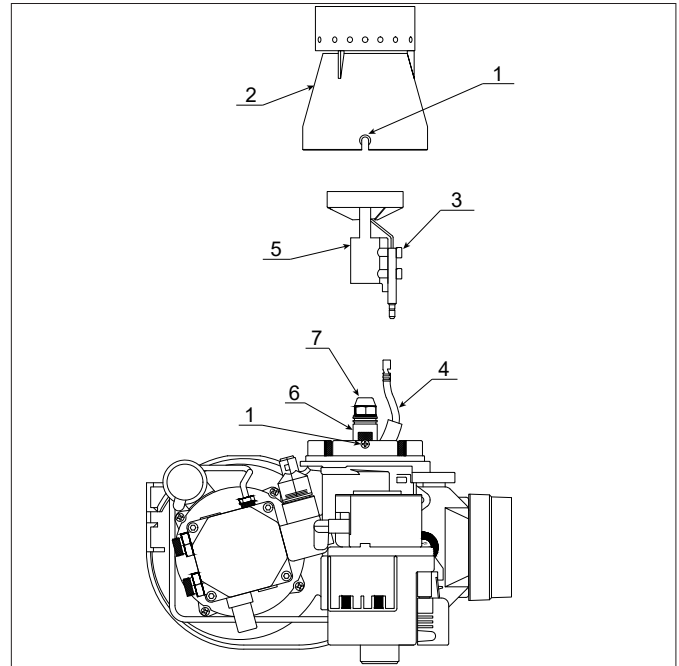
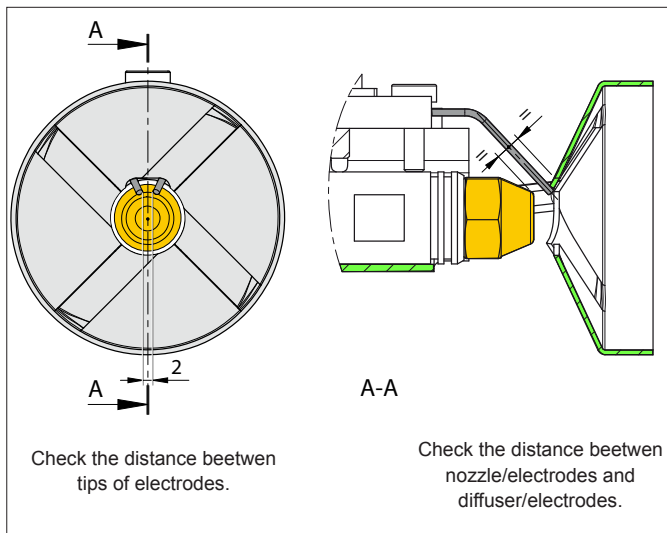
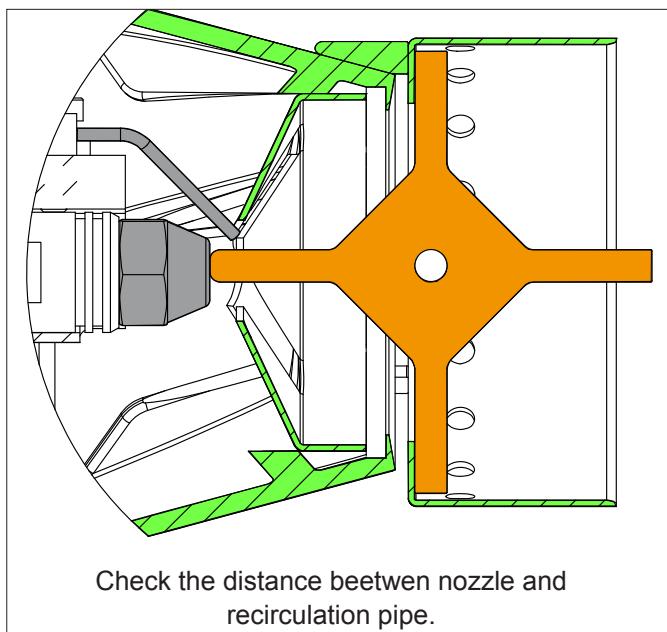

Figure 10-3: Burner head, diffuser and nozzle holder
Figure 10-4: Ignition electrode settings
Figure 10-5: Checking the diffuser position using the gauge provided
1. Remove the burner head. Refer to Figure 10-3. Loosen the two fixing screws (1) and remove head (2) from the burner.
2. Check the nozzle (7) is correct for the required boiler output. Refer to Table 2-3 for the correct nozzle size and type for the required boiler output.
3. If the nozzle needs to be replaced – remove the diffuser/electrode assembly. Refer to Figure 10-3.
- Using a 3 mm Allen key, loosen the diffuser fixing screw (3) on the electrode assembly.
- Lift the diffuser/electrode assembly (5) up and off the nozzle holder.
- Disconnect both ignition leads (4) from the electrodes.
4. Use a 16mm spanner to remove /re-fit the nozzle, whilst holding the nozzle holder (6) using another 16mm spanner.
5. Re-fit the diffuser/electrode assembly. Refer to Figure 10-3.
- Re-connect ignition leads (4) to electrodes.
- Re-fit the diffuser/electrode assembly (5) onto the nozzle holder (6) lining up the fixing screw (3) with the with the recess in the nozzle holder.
- Tighten the fixing screw (3) to secure the diffuser/electrode assembly (5) in place on the nozzle holder (6).
6. Check/adjust the electrode setting. Refer to Figure 10-4. Always check the electrode settings after replacing the nozzle.
7. Re-fit the burner head. Refer to Figure 10-3.
- Locate the head fixing screws in the countersunk slots in the burner collar (1).
- Check/adjust the electrode setting. Refer to Figure 10-4.
- Tighten the two screws to secure the head (2) in position on the burner.
8. Check/adjust the diffuser position. Refer to Figure 10-5.
- Refer to Table 2-3 for the required distance (diffuser setting) for the boiler output required. This is the distance from the front face of the nozzle to the internal shoulder of the burner head. Refer to Figure 10-5.
- If the diffuser setting is correct, the tip of the gauge leg will just touch the front face of the nozzle, with the gauge still in contact with the internal shoulder of the burner head on BOTH sides. Refer to Figure 10-5.